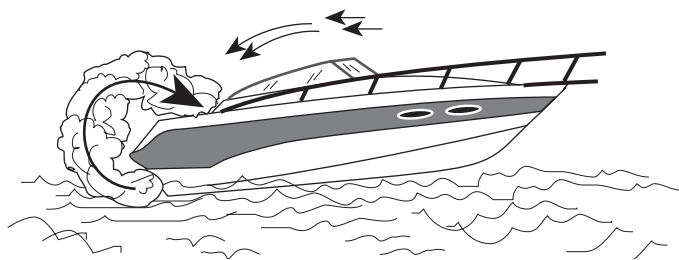

FIGURE 1.6 BACKDRAFTING - AIR FLOWS OVER BOAT AND BEHIND TRANSOM
Backdrafting or the “station wagon effect” is caused by air movement over or around a boat creating a low pressure area of suction area around the stern which can increase CO level on the boat. Backdrafting can be affected by relative wind direction, boat speed, and boat trim angle. (See Figure 1.6.)
3. Canvas configurations - under various conditions, adding or removing canvas may raise or lower CO levels. (See Figures 1.6, 1.7, 1.9.)